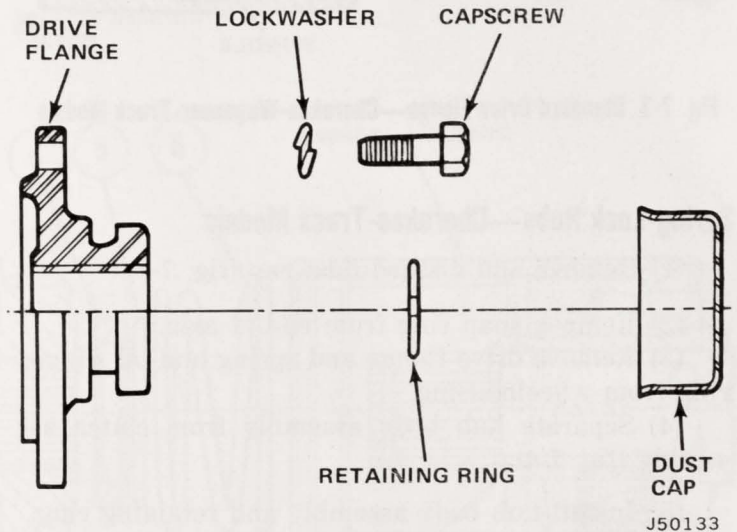
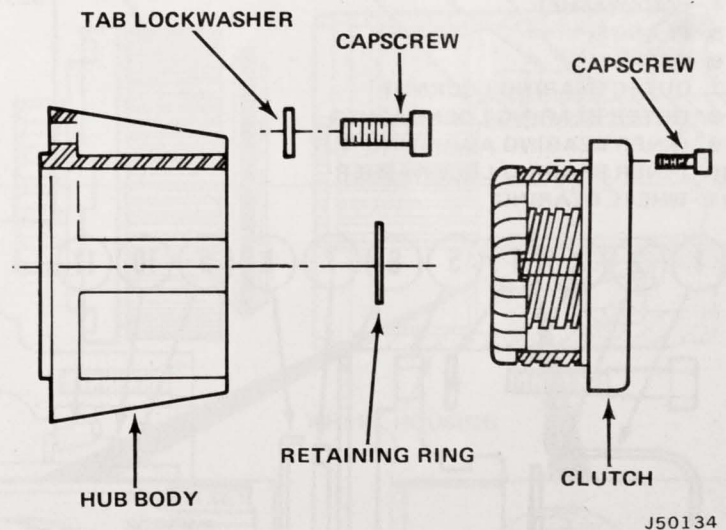

Fig. 7-1 Standard Drive Flange—CJ Models
Fig. 7-2 Spring-Lock Hub—CJ Models
- (1) Remove retaining ring (fig. 7-1).
- (2) Remove capscrews and lockwashers. Discard lockwashers.
- (3) Remove drive flange and gasket.
- (4) Separate hub body assembly from clutch assembly (fig. 7-2).
- (5) Install hub body assembly and gasket on front wheel hub. Use original capscrews and special tab lockwashers supplied with hubs. Tighten capscrews to 40 to 45 foot-pounds torque. Bend up lockwasher tab against a flat of capscrew head.